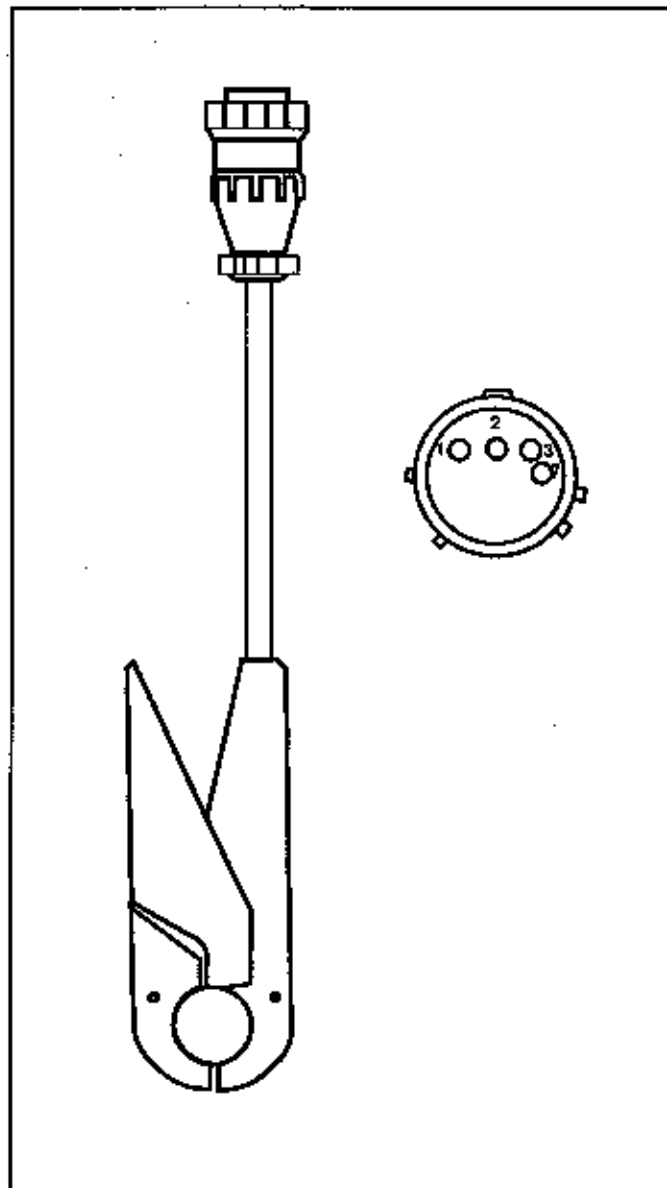

Figure 206
**Grey Ampere Clamp (See Figure 206)**